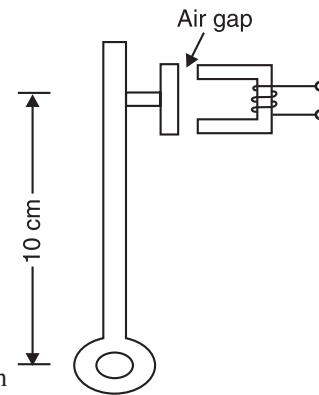

Fig. 9.32
**Solution.** Fig. 9.32 shows the whole arrangement. Let  $F$  newtons be the force exerted by the electromagnet.